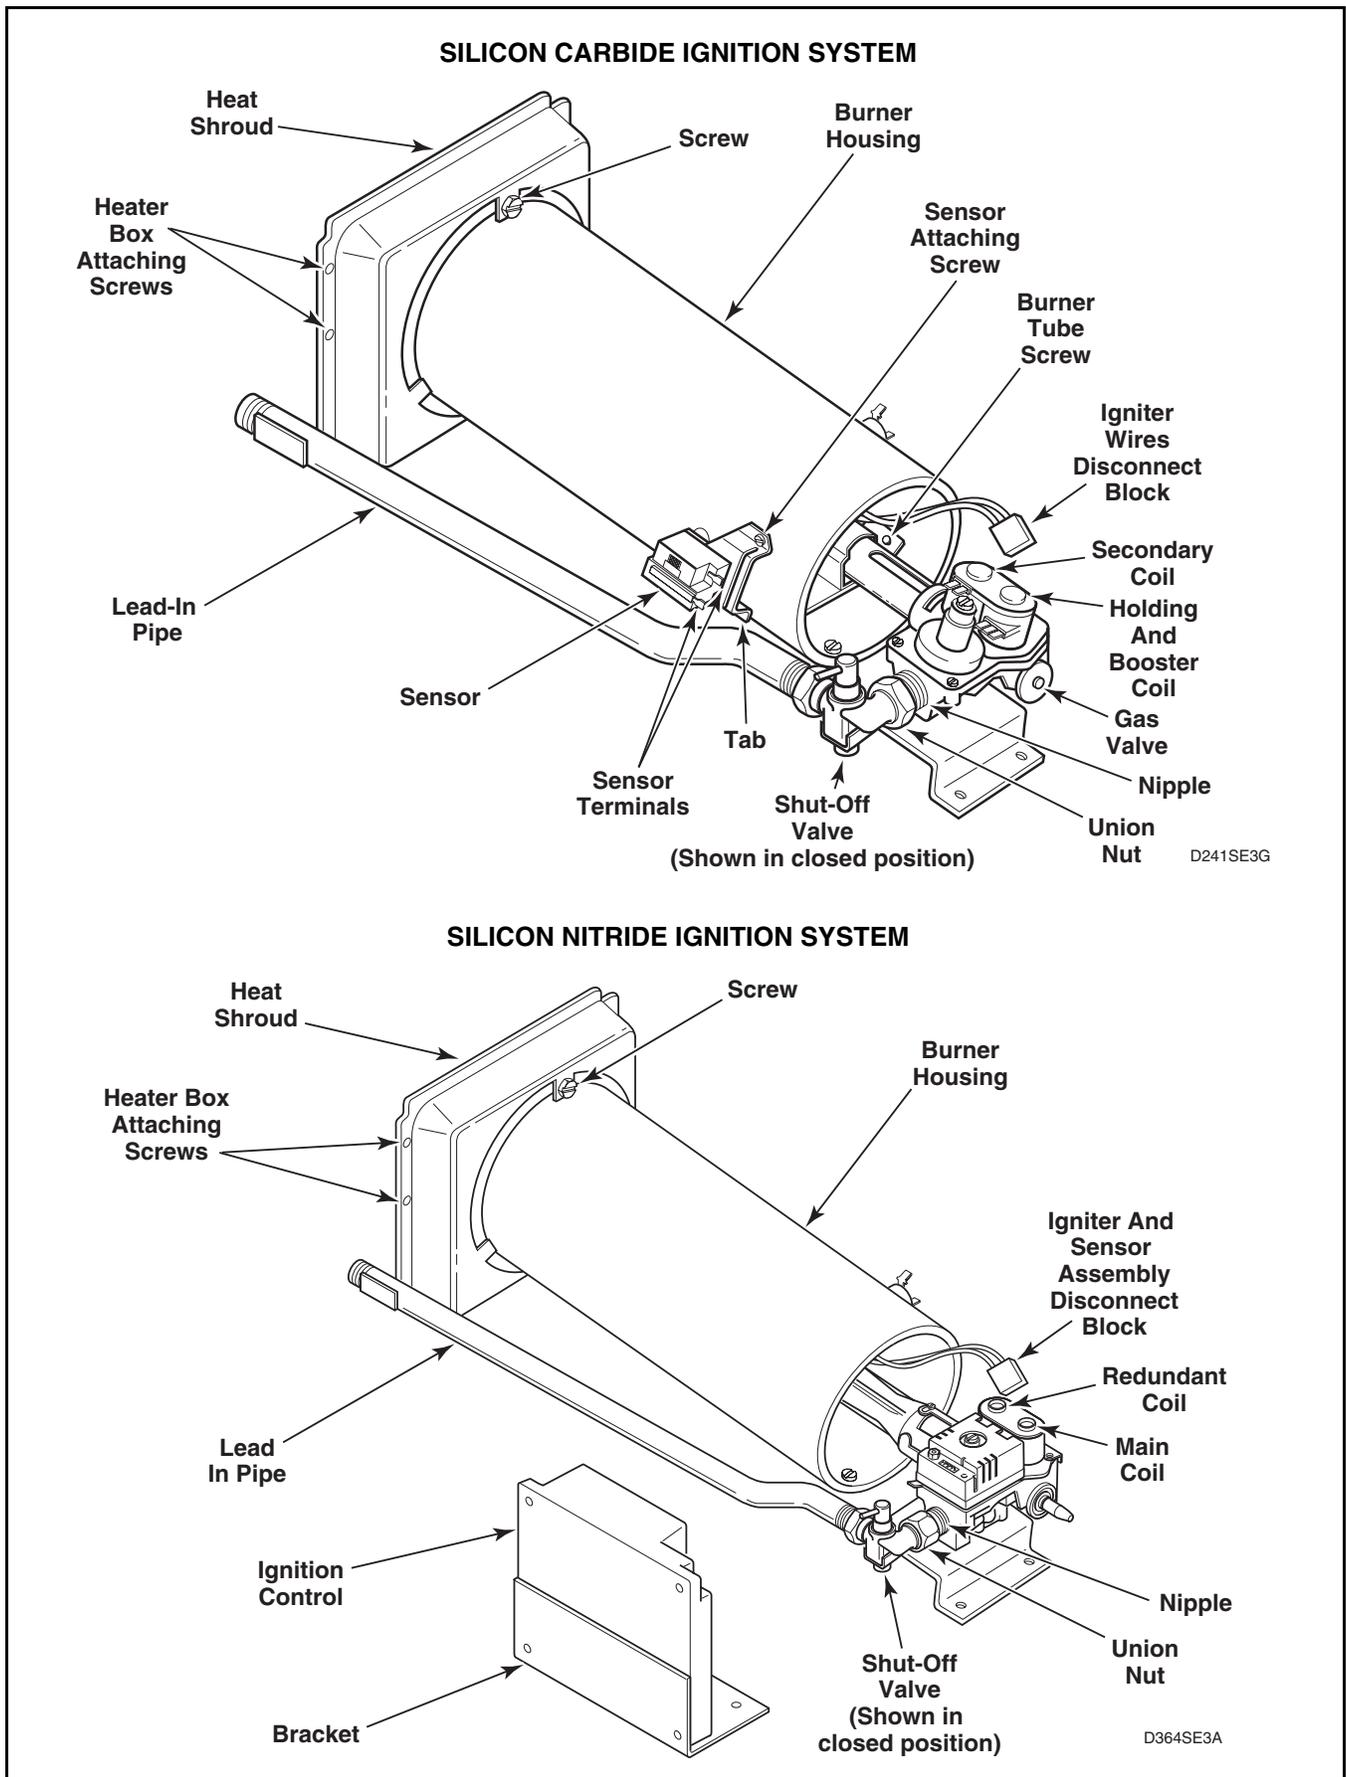
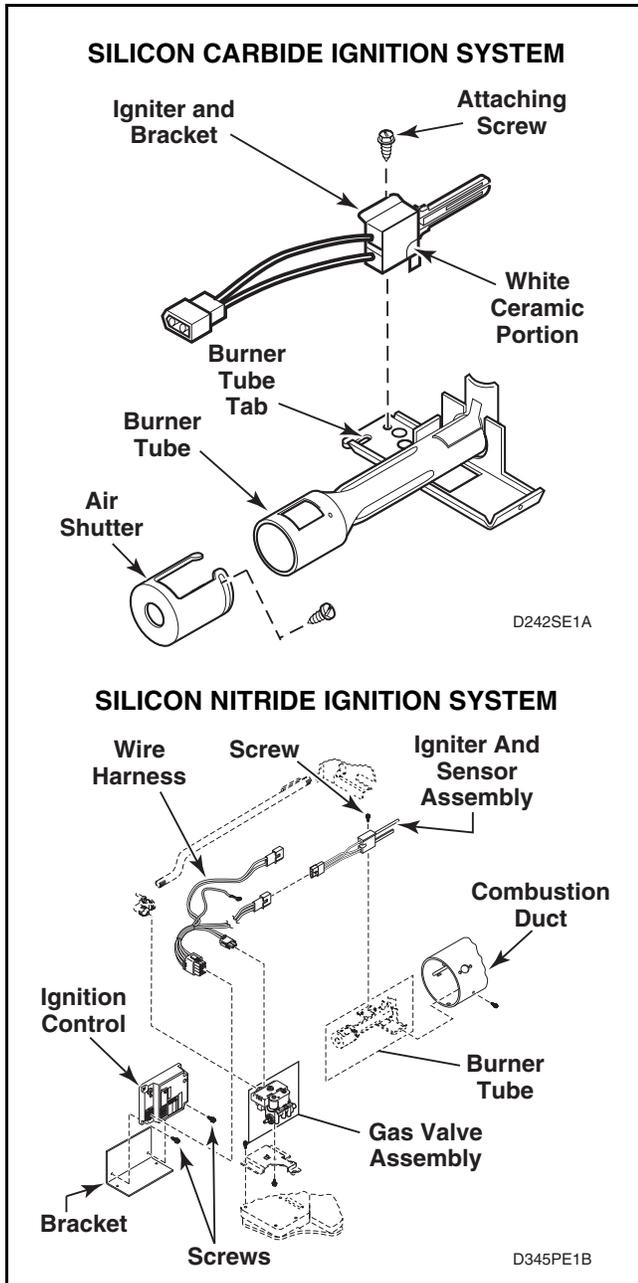

Figure 19
Figure 20
- (1) **Silicon Carbide Ignition:** Close main gas shut-off valve, disconnect igniter wires at disconnect blocks, sensor wires from sensor terminals, and wires from gas valve coils at the quick disconnect blocks. Refer to *Figure 19*.
Silicon Nitride Ignition: Close main gas shut-off valve, disconnect wire harness from igniter and sensor assembly, and from gas valve coils at disconnect blocks. Refer to *Figure 19*.
- (2) Disconnect gas shut-off valve from gas valve at the union nut. Refer to *Figure 19*.
- (3) Remove three screws holding valve and mounting bracket to base. Refer to *Figure 19*.
- (4) Lift gas valve and mounting bracket from base. Refer to *Figure 19*.
- (2) Gently move burner tube toward rear of dryer to disengage tab from slot on left side of burner housing. Refer to *Figure 19*.
- (3) Carefully rotate burner tube and igniter **counterclockwise** so tab is at 8 o'clock position.
- (4) Move air shutter end of burner tube slightly to right and **CAREFULLY** remove burner tube and igniter assembly out through front of dryer.
- (5) Remove screw holding igniter and bracket to burner tube and remove igniter and bracket. Refer to *Figure 20*.
- (1) Remove wires from sensor terminals. Refer to *Figure 19*.
- (2) Remove screw holding sensor to burner housing. Refer to *Figure 19*.
- (1) Remove wire harness from ignition control.
- (2) Remove screws holding ignition control to bracket. Refer to *Figure 19*.
- (3) Carefully remove ignition control. Refer to *Figure 19*.
- Silicon Carbide Ignition:** Disconnect igniter wires at disconnect blocks, sensor wires from sensor terminals, and wires from gas valve coils at the quick disconnect blocks. Refer to *Figure 19*.
- Gently move burner tube toward rear of dryer to disengage tab from slot on left side of burner housing. Refer to *Figure 19*.
- Remove screw holding burner housing to heat shroud. Refer to *Figure 19*.